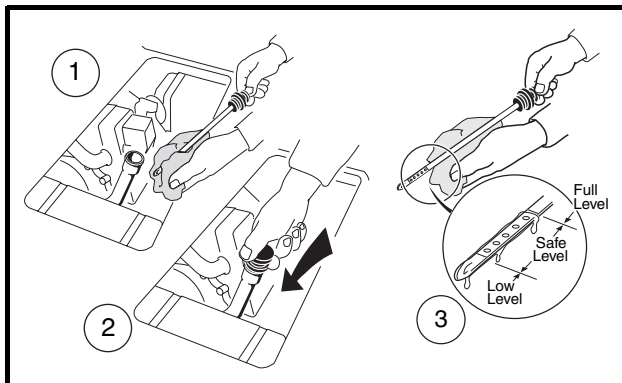

Figure 13-12 Check Engine Oil Level
9. Check engine oil level (**Figure 13-12, Page 13-9**).
- 9.1. With vehicle on level surface, remove dip stick and clean with cloth (**Figure 13-12, Page 13-9**).